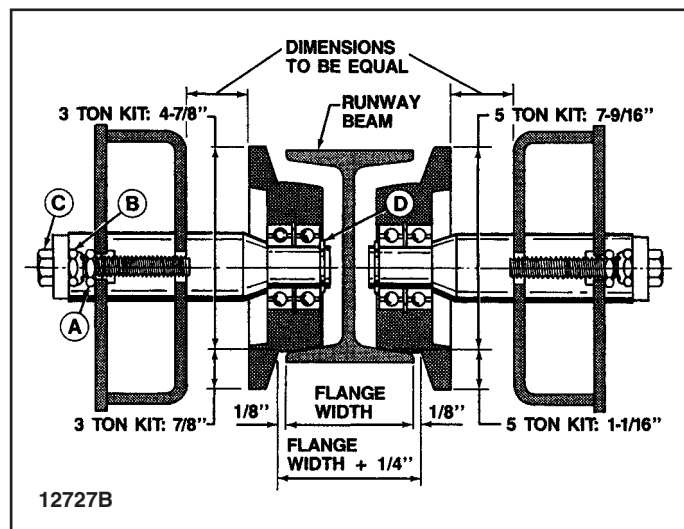

Figure 5.
**1. Open End Runway.** If one end of the crane runway is open and no interference is encountered the crane bridge can be placed on the end of the runway. First check distance between wheels. The distance between the inside faces of the wheel flanges should be the width of the bottom flange of the runway beam plus 1/4". See Figure 5. Note also that the dimensions from the back of the wheels to the sides of the truck should be equal as shown in Figure 5. If wheel adjustment is required, see paragraph 5. If wheels do not require adjusting, lift crane bridge so that wheels are level with contact surface on runway beam. Carefully move crane bridge onto runway.
**3. Runway beam flange width 3-3/8" or less.** Refer to Figure 5. Loosen jam nut "A" and self-locking nut "B". Back axle and wheel out against truck side by turning bolt "C". Lift crane bridge to runway level and secure. See paragraph 5 for wheel adjustment.
**4. Wheel Removal.** If the methods above are not possible, the crane bridge wheels must be removed. Refer to Figure 5. Loosen jam nut "A" and self-locking nut "B". Back axle and wheel out to truck side by turning bolt "C". Remove retaining ring "D". Hold wheel to keep from falling, back out bolt "C" until clear, and remove axle and wheel. Remove all wheels. Lift crane bridge to runway level and secure. Reinstall wheels in reverse order of removal. See paragraph 5 for wheel adjustment.
**5. Wheel Adjustment.** Measure the width of the bottom flange of the runway beam and add 1/4". This is to be the dimension between the inside faces of the wheel flanges as shown in Figure 5. Lift or jack up truck from runway beam (to remove weight from wheels) and adequately secure. Loosen jam nut "A" and self-locking nut "B" and adjust bolt "C" on a set of wheels to get the proper dimension between wheel flanges and to maintain equal dimensions from the back of the wheels to the side of the truck as shown in Figure 5. Securely tighten jam nut "A" and self-locking nut "B". After all wheels are adjusted, lower truck to runway and check clearance between wheel flange and edge of beam (1/8").